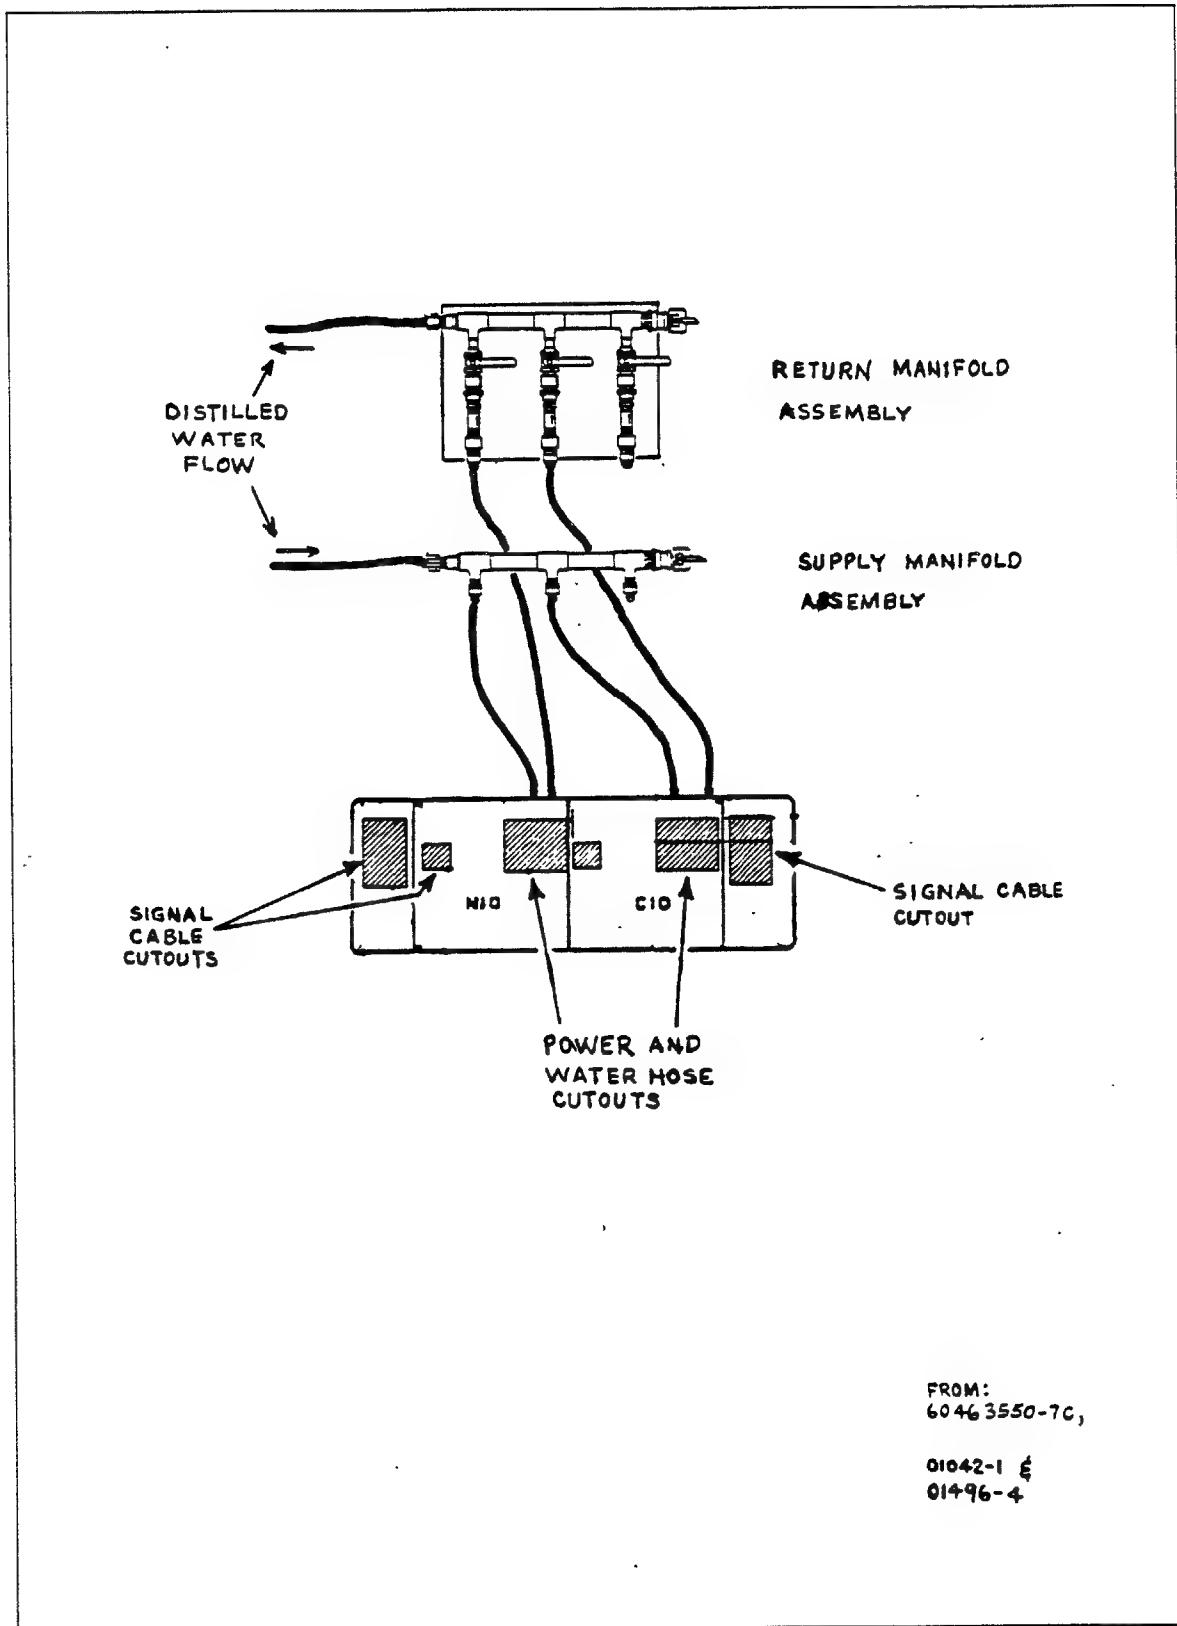

Figure 2-58. Hose Connections for Secondary IOU
- 3. Connect one end of a 2.4 m (8 ft) long, 1.9 cm (0.75 in) diameter hose labeled S15 to 3-port supply manifold and one end of a second hose labeled R15 to 3-port return water manifold (figure 2-58). Place other ends of hoses near water cutout for NIO section in secondary IOU.